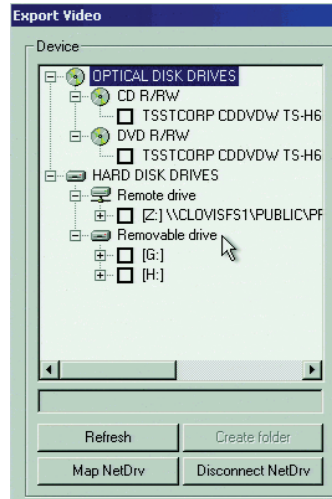

Figure 86. Partial View of the Export Video Dialog Box
- e. Wait while the DX8100 prepares the JBOD drives for video storage. The PDB Create dialog box appears (refer to Figure 86 on page 80).
2. Click Export . The Export Video dialog box opens (refer to Figure 86).